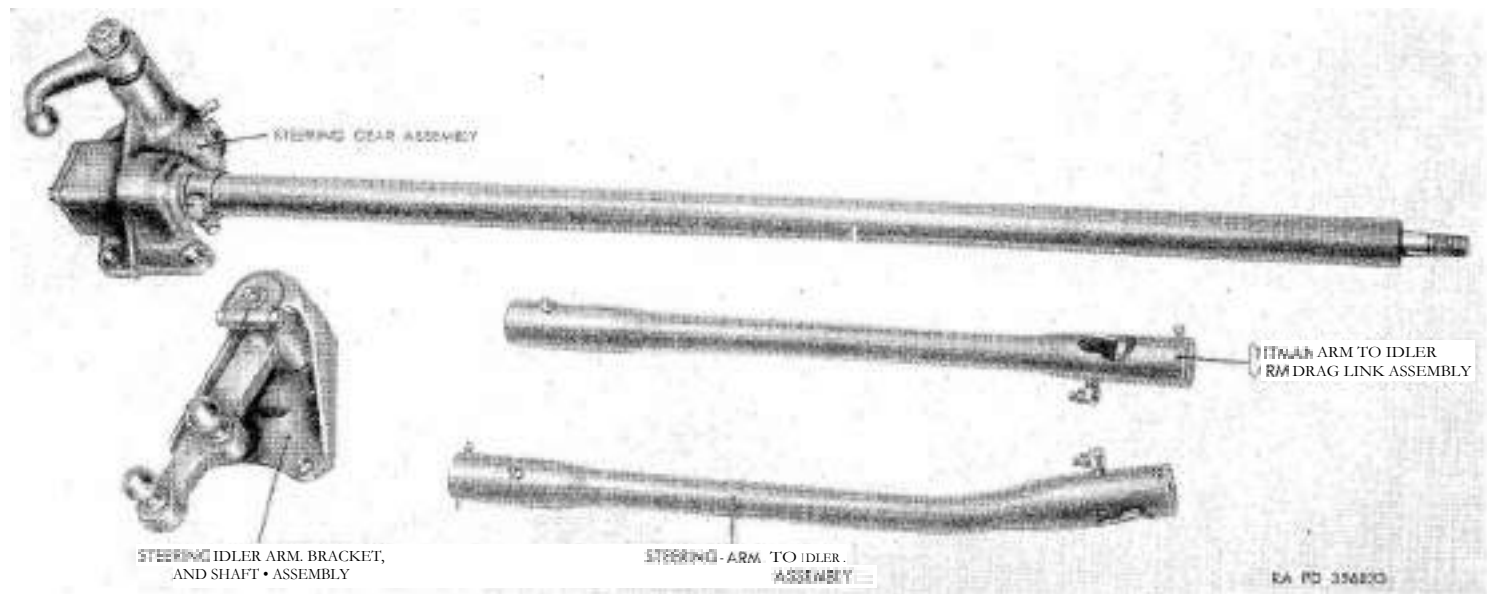

FIGURE 159 Steering system assemblies
a. Steering Gear Assembly (fig. 159). The steering gear is a worm and sector type, assembled in a cast iron housing, which supports the column shaft with worm and pitman arm shaft with integral sector. Tapered, adjustable roller bearings support the worm. Pitman arm operates in bushing-type bearings. Adjustments are provided for controlling the backlash between worm and sector. Adjustment of the roller bearings is accomplished by the use of shims.
b. Steering Idler Arm, Bracket, and Shaft Assembly (fig. 159). Proper steering geometry is accomplished by the use of two drag link assemblies, which require a steering idler arm to complete the connection between steering gear and front axle. The idler arm is equipped with a bushing-type bearing and operates on a steel shaft supported in a bracket, which is attached to the frame left side rail.
c. Drag Link Assemblies (fig. 159). The drag links are tubular assemblies with adjustable ends. One drag link provides a connection between pitman arm on the steering gear and the steering idler arm ; the other drag link connects idler arm to the steering arm on front axle.
a. General. The information in this section is based on the assumption that the steering gear assembly (fig. 159) is removed from the vehicle.